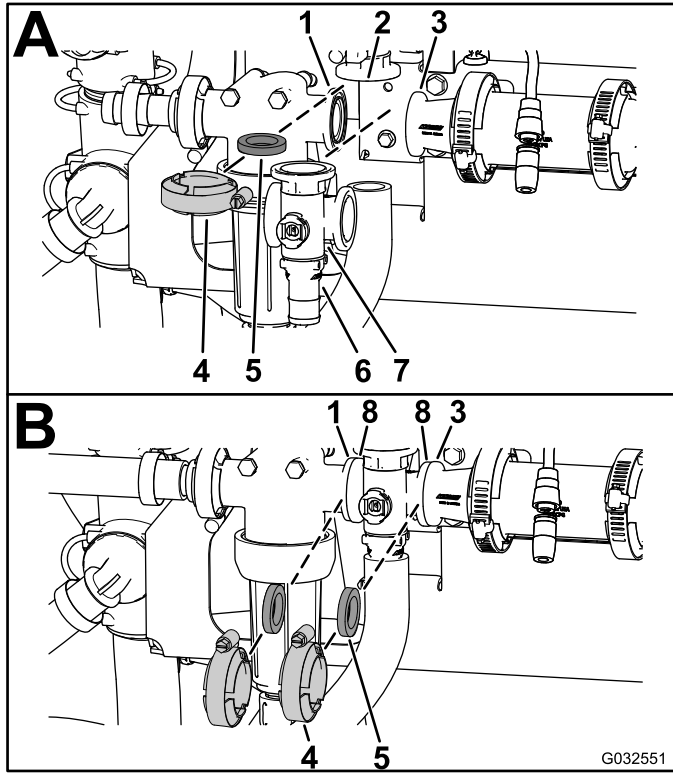

Figure 115
1. Align the flange of the agitation-bypass valve, 1 gasket, and the end-cap-fitting flange of the agitation-valve manifold (Figure 115 A).
2. Assemble the agitation-bypass valve, gasket, and agitation-valve manifold with a clamp tightened hand-tight (Figure 115 A).
3. Align a gasket between the flanges of the pressure-filter head and the agitation-valve manifold (Figure 115 B).
4. Assemble the pressure-filter head, gasket, and agitation-valve manifold with a clamp tightened hand-tight (Figure 115 B).
5. Align a gasket between the flanges of the agitation-valve manifold and the reducer coupling (Figure 115 B).
6. Assemble the agitation-valve manifold, gasket, and reducer coupling with a clamp tightened hand-tight (Figure 115 B).
7. Align a gasket between the flanges of the agitation-valve manifold and the adapter fitting for the agitation-throttle valve (Figure 115 C).
8. Assemble the agitation-valve manifold, gasket, and adapter fitting with a clamp tightened hand-tight (Figure 115 C).